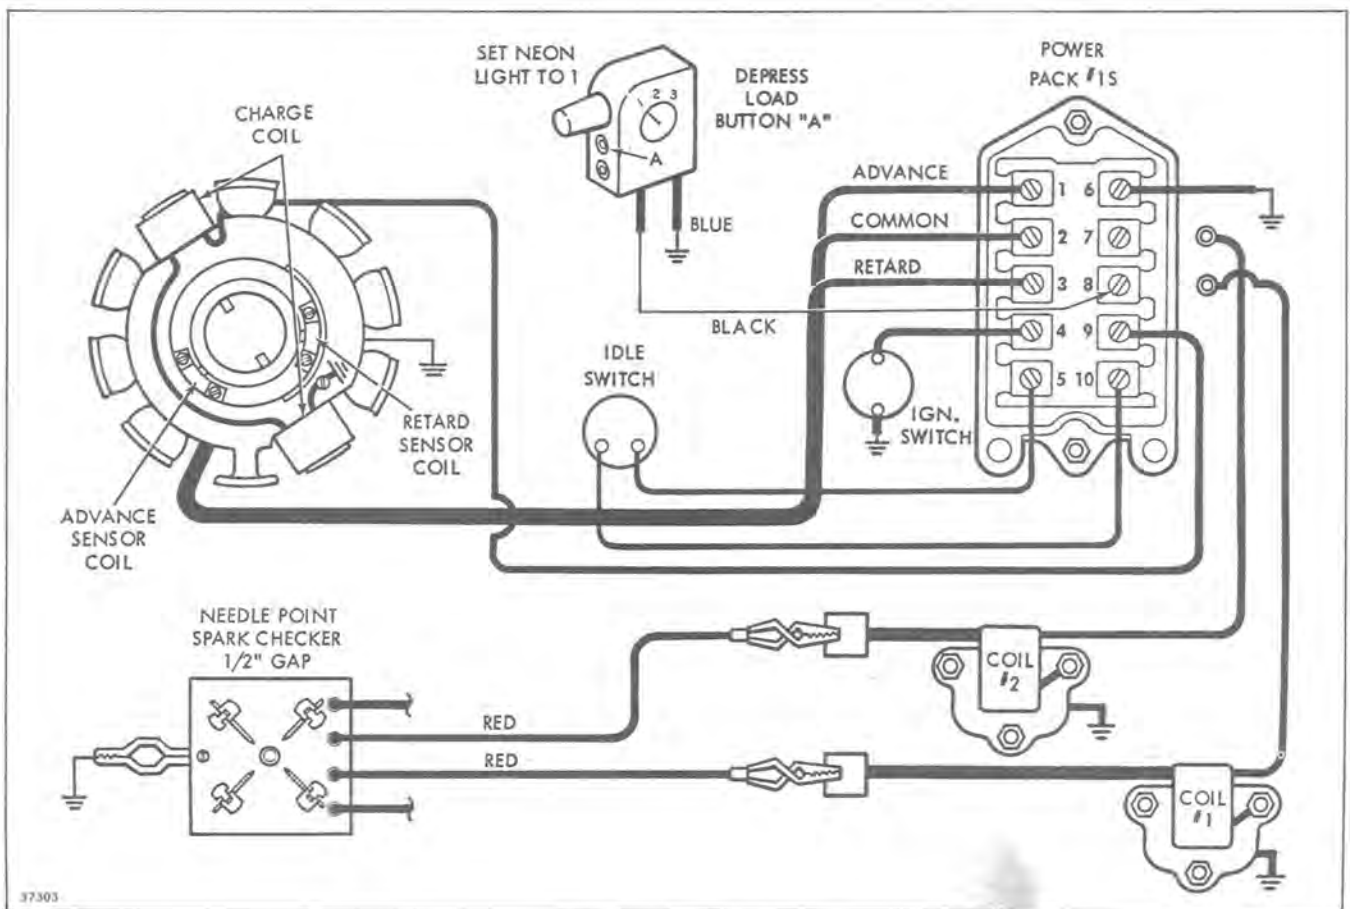

Figure 7-15
- B. Use neon tester S80 or M80. Set rotary switch on tester to position #1. Hook tester black lead to Power Pack terminal #7 and tester blue lead to engine ground. See Figure 7-15.
- C. Depress load button "A" and crank engine with electric starter or manual starter (with ignition switch in "RUN" position) and observe light. See Figure 7-15.